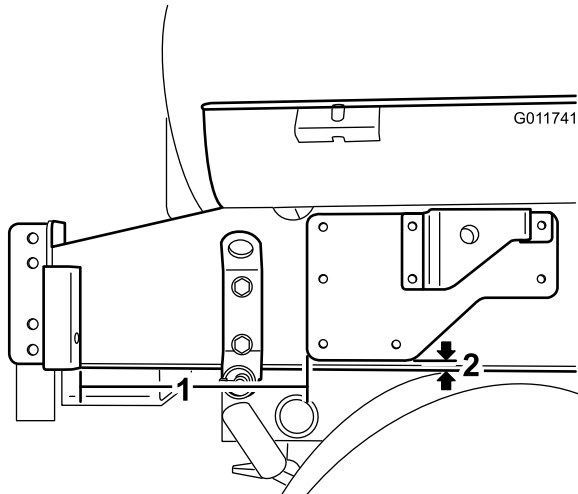

Figure 2
3. Position the right bracket on the right side of the tank skid as shown in Figure 2. Use a center punch to mark the 8 holes in the bracket.